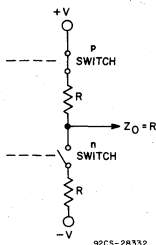

Fig. 3 — Constant output impedance of a buffered gate.
—Buffered—Fig. 3 depicts the buffered output stage and shows the MOS transistor as switched on with a channel resistance R; R is the same value for the n-switch closed or the p-switch closed.
as buffered (B) types or unbuffered (UB) types by virtue of the squared or rounded transfer characteristics of Figs. 3 and 4, respectively. Even though both types have a single NMOS and single PMOS output transistor, the rounded transfer characteristic of the unbuffered inverters makes them UB types by virtue of:
**Output Impedance**—Refer to Figs. 3 and 4 and accompanying descriptions of the constant output impedance of buffered gates and the variable output impedance of unbuffered gates. Note that both buffered and unbuffered RCA 2-, 3- and 4-input gates are designed to meet the same maximum output impedance; output current ratings ( $I_{OL}$  and  $I_{OH}$ ) have the same minimum limit on RCA data sheets.